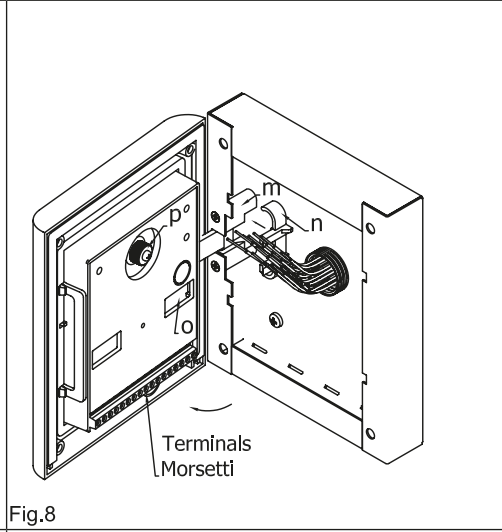

Fig.8
7. As shown in figure 8, open the module support frame **h** as suggested by the pointer, hook the hinge lock **n** to the hinge **m**. When the support frame is hooked to the surface box, do the following operations:
- make the required settings operating the two jumpers and the 4 way dip-switch accessible from the opening **o** (fig.8)
- adjust the camera viewing angle by operating the screw **p** (fig.8);